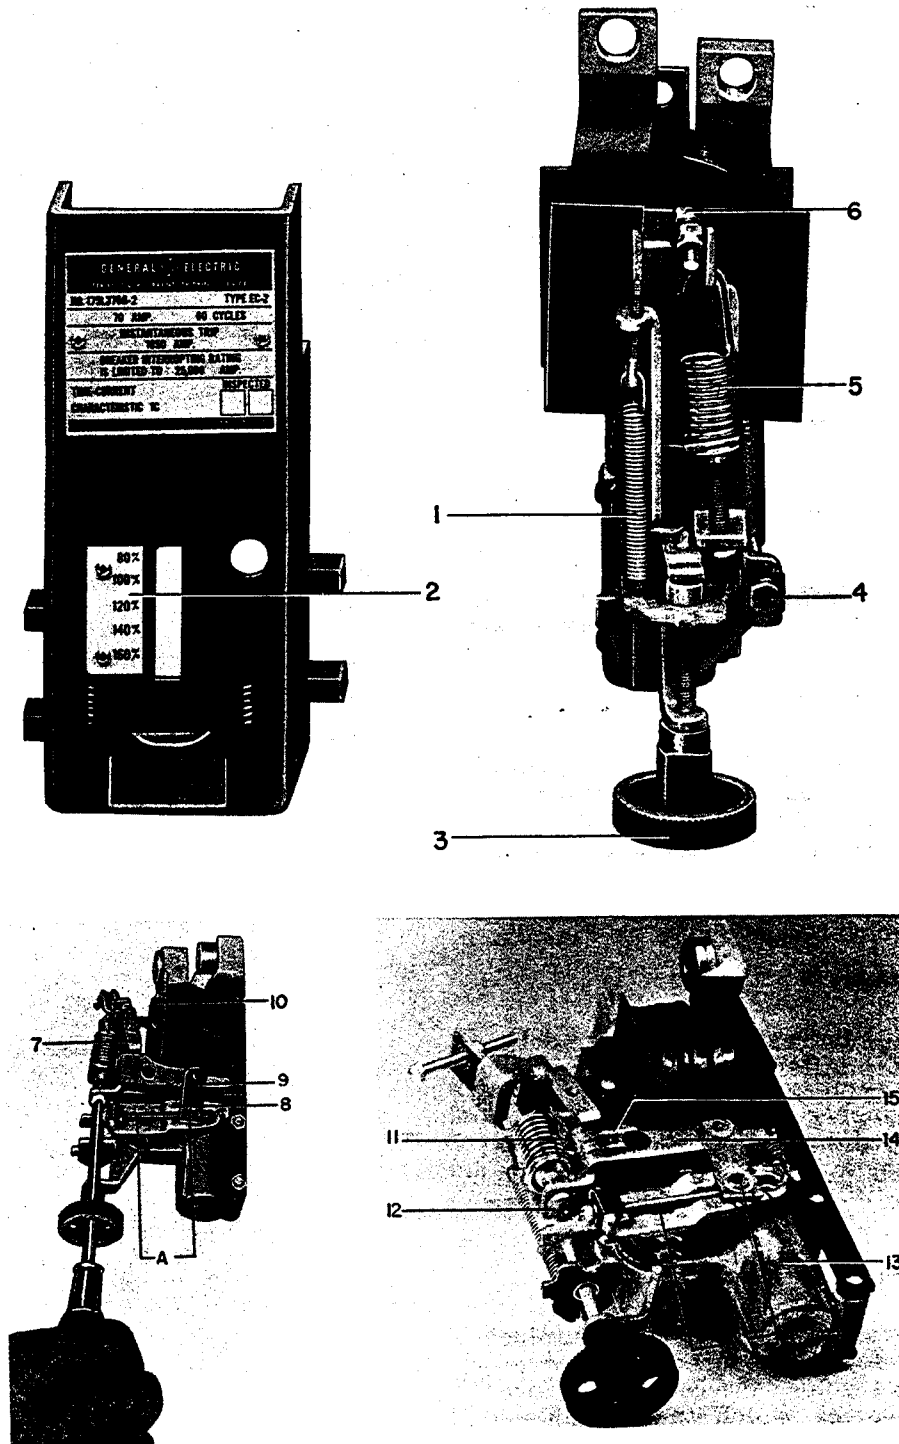

Fig. 29 (8024843, 801449, 8019485) Overcurrent tripping device - EC-2
The Type EC-2, EC-2A, (see Fig. 29) over-current tripping device is available in three forms:
### LONG TIME-DELAY AND HIGH-SET INSTANTANEOUS TRIPPING (Fig. 29)
Time values are inversely proportional to the effective length of the dashpot arm. Therefore, the linkage setting that gives the shortest time value is the one at which dimension "A", Fig. 29, is greatest. The time adjustment screw (4) may be turned by inserting a Phillips head screwdriver through the hole in the front of the case. If it is desired to relate the linkage setting to the index marks on the linkage it will be necessary to remove the case. This may be done by removing the two mounting screws, one on each side of the
### INSTANTANEOUS LOW-SET TRIPPING (Fig. 29)
### INSTANTANEOUS HIGH-SET TRIPPING (Fig. 29)